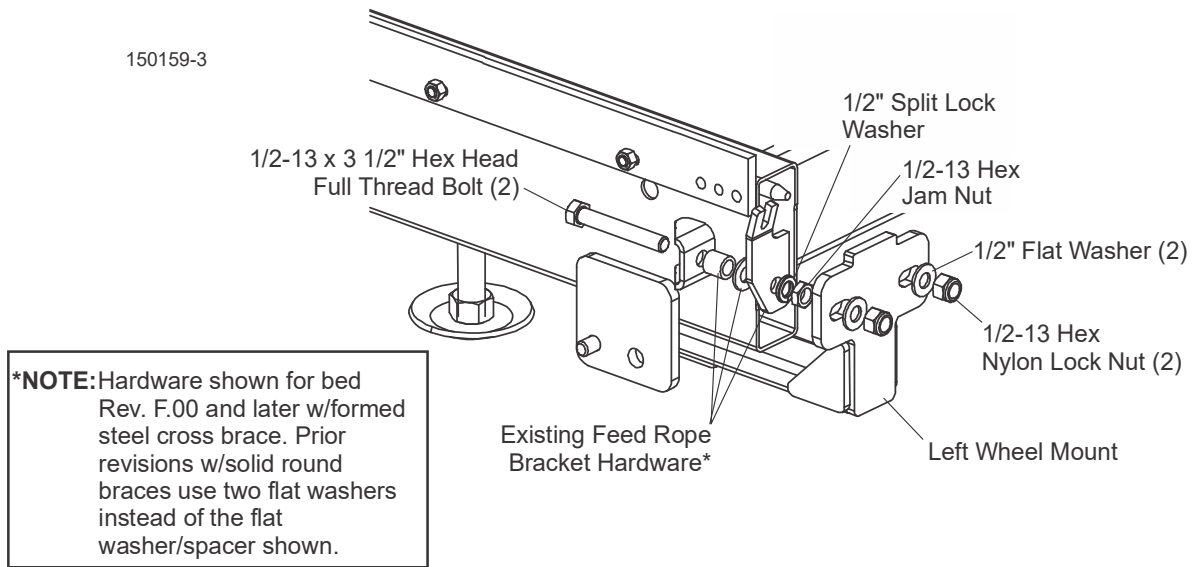

FIG. 1-3
8. After the wheel mount is installed, tighten the jam nut to secure the feed rope bracket against the bed cross brace and reinstall the feed rope to the bracket. See Fig. 1-3.